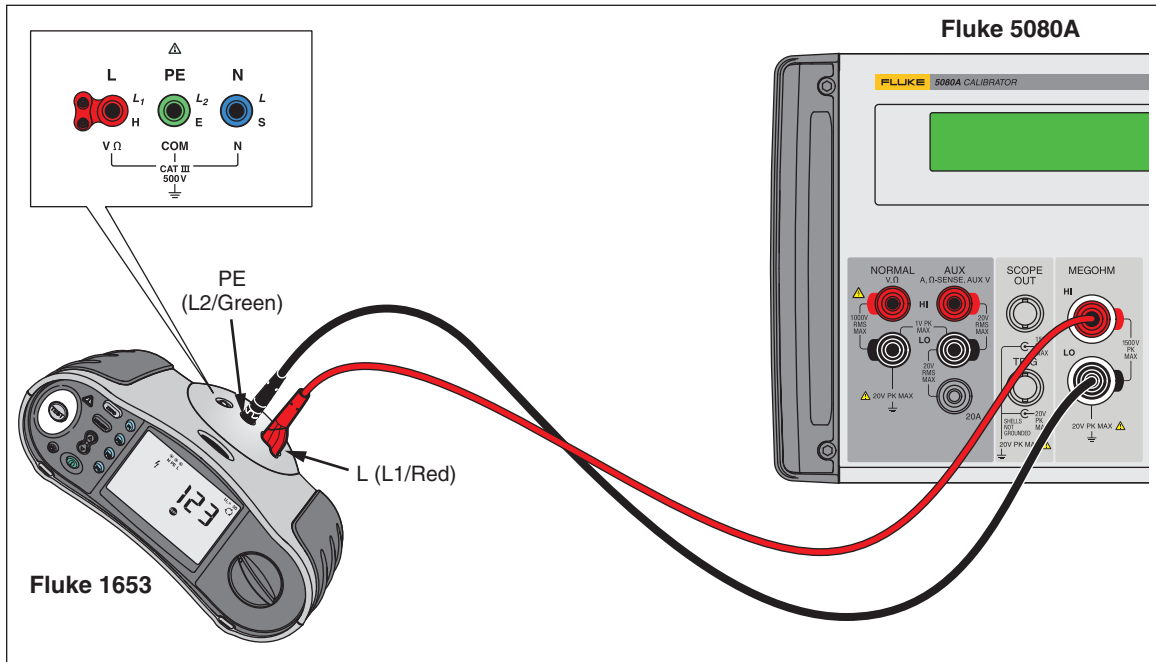

Figure 3. Resistance Calibration UUT Connections
3. Connect the UUT to the Calibrator as shown in Figure 3.